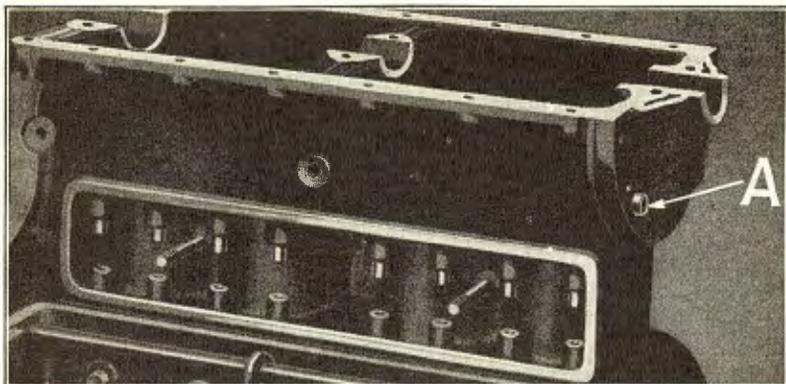

Fig. 172
- 256** Inspect camshaft bushing in cylinder block for wear (See "A" Fig. 172). This can be done by inserting a camshaft into the bushing and checking the clearance. If there is more than .004" clearance between shaft and bushing, a new bushing should be installed. The old bushing is removed by driving it out with a driver and a new bushing installed by driving it into camshaft hole in cylinder block with a bushing driver, and with the notched side of the bushing facing up. The bushing is driven in until the end of the notch is flush with end of block. The bushing is then line reamed so that shaft will fit in bushing with a clearance of from .0015" to .002".